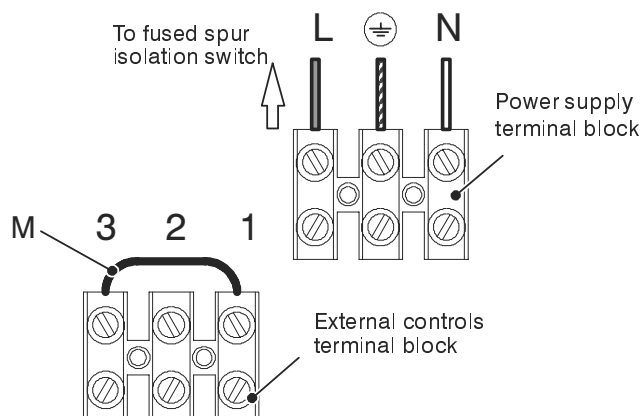

Fig. 6.11
- 6 Connect the electrical supply flexible cord coming from the fused spur isolation switch to the power supply terminal block of the boiler (Fig. 6.11) keeping the same connections for the live (brown wire) and the neutral (blue wire). External 3 A fuse or fused plug with same current rating is recommended.
When connecting any type of external control, the link M in Fig. 6.11 must be removed.